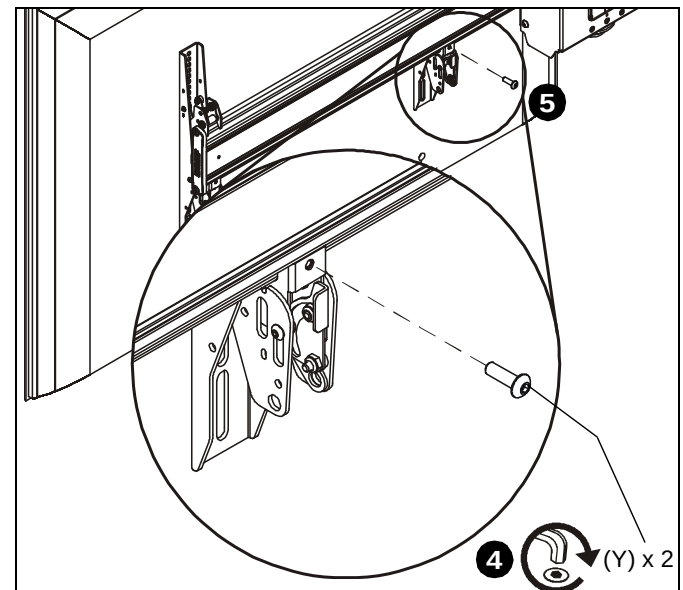

Figure 10
- Fasten bracket against ceiling mount extrusion using one 10-24 x 5/8" button head cap screw (Y). (See Figure 10)